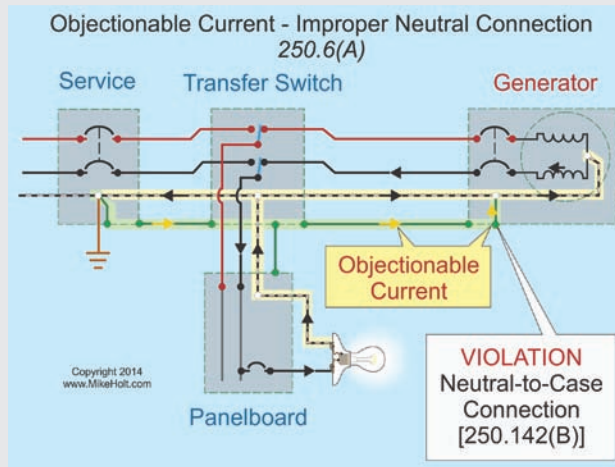

Figure 250-26
**Generator.** Objectionable neutral current will flow on metal parts and the equipment grounding conductor if a generator is connected to a transfer switch with a solidly connected neutral and a neutral-to-case connection is made at the generator. Figure 250-26